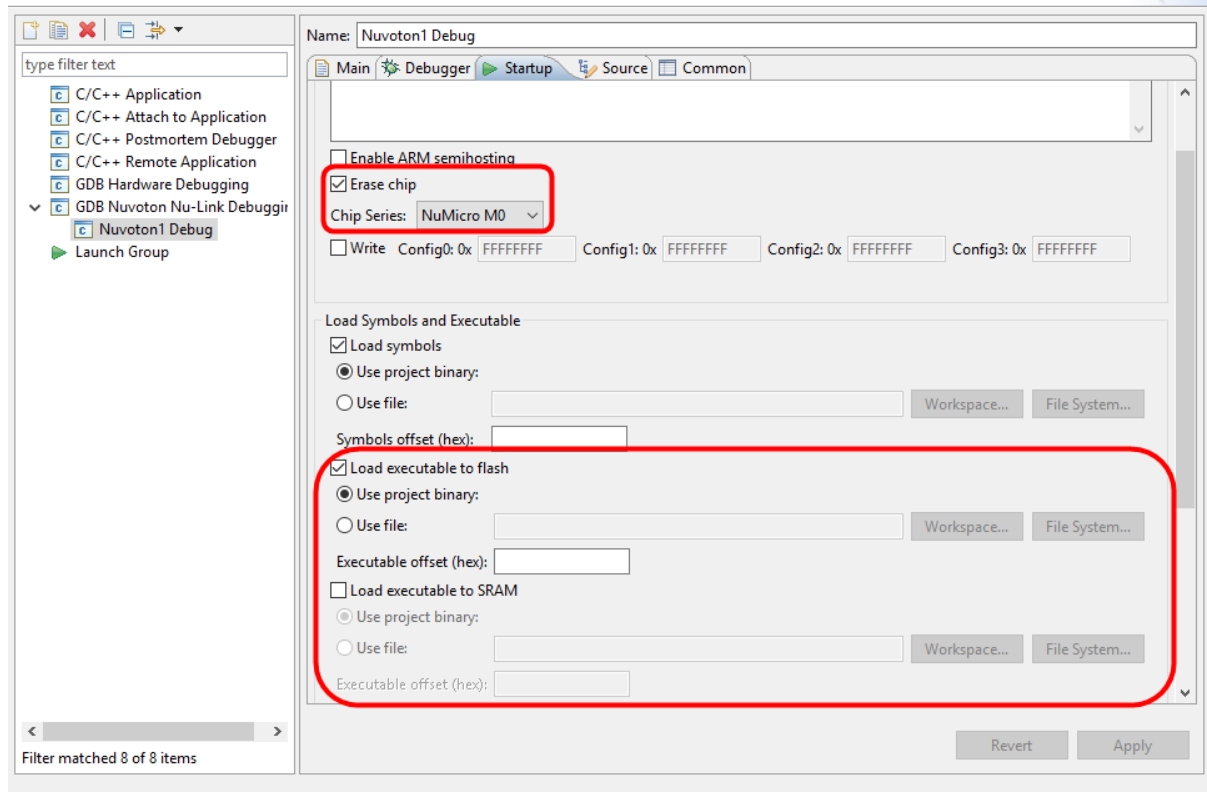

Figure 4-23 Configuring the Startup Tab
Step 6: At last, click **Apply** to save the settings, as shown in Figure 4-23.